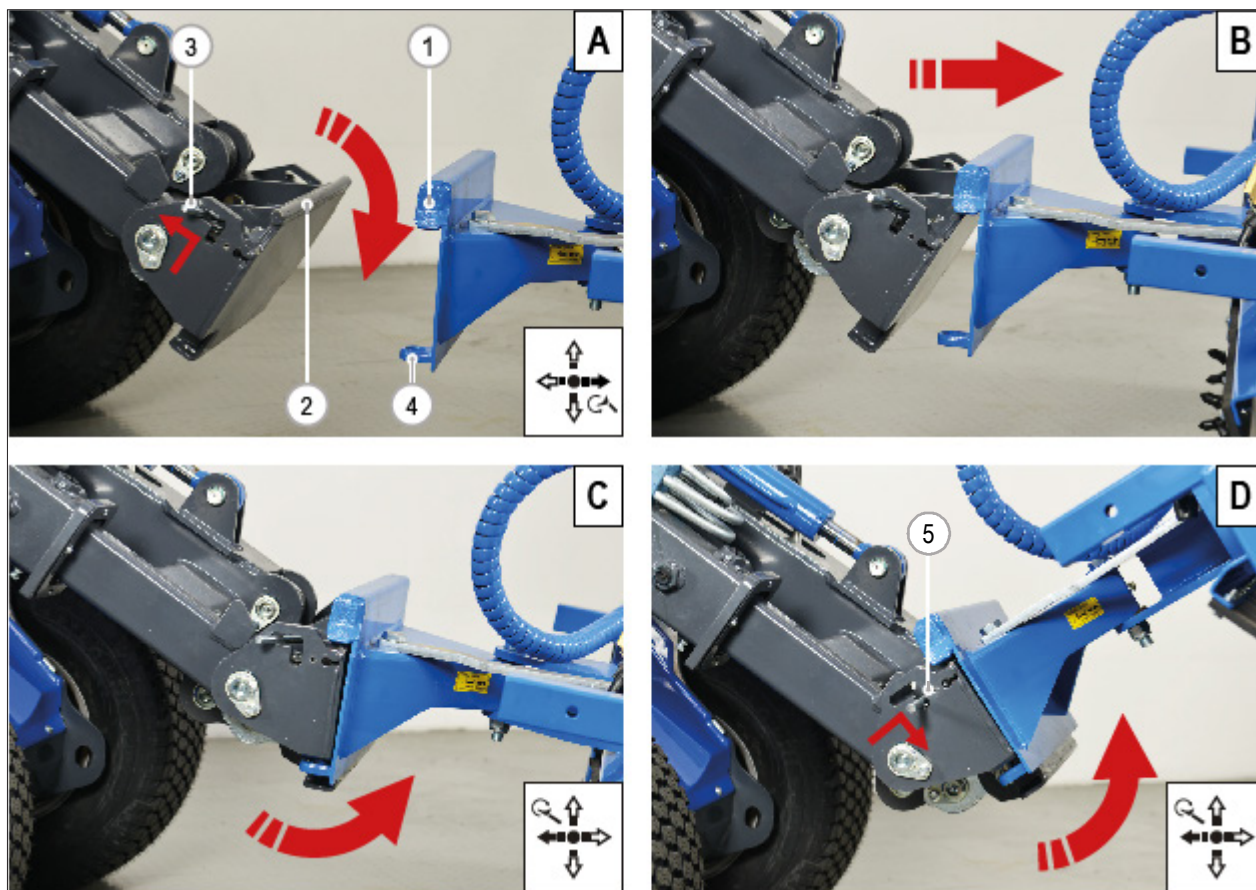

FIG. 26
- 6) Lift and push back the two levers (**FIG. 26 - Ref. 3**) placed on the quick coupler, in order to raise the hook plugs.
- 8) Operating carefully draw up the quick coupler to one of the attachment so as to go up the upper round profile (**FIG. 26 - Ref. 2**) in their curved seats of the attachment (**FIG. 26 - Ref. 1**).
- 9) Move slowly the multifunction joystick to the left, in this way the quick coupler leans backward, continue after lifting of a few centimetres the quick coupler and automatically the coupling system closes allowing the two plugs to fit in the seats of the attachment (**FIG. 26 - Ref. 4**).
- 10) Check visually the two levers (**FIG. 26 - Ref. 5**) are in low position. If not, it means the coupling was not successful.
- 4) Operating carefully draw up the quick coupler to one of the attachment so as to go up the upper round profile (FIG. 26 - Ref. 2) in their curved seats of the (FIG. 26 - Ref. 1) attachment.
- 1) Lift and push back the two release levers (**FIG. 26 - Ref. 3**) from the quick coupler in order to disengage the two plugs.